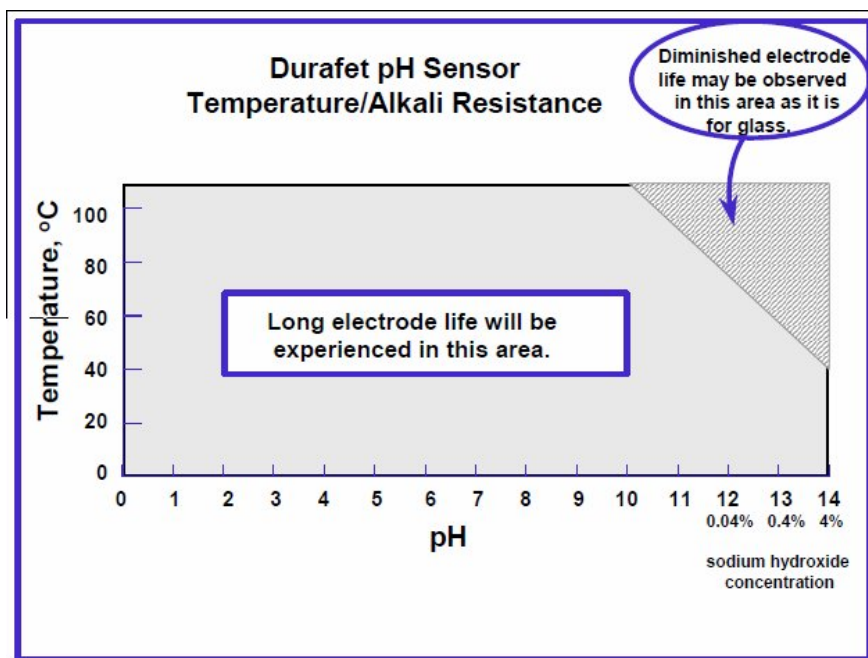

Figure 1-1 Temperature vs Alkali Resistance
- Hot caustic (see Figure 1-1 below)